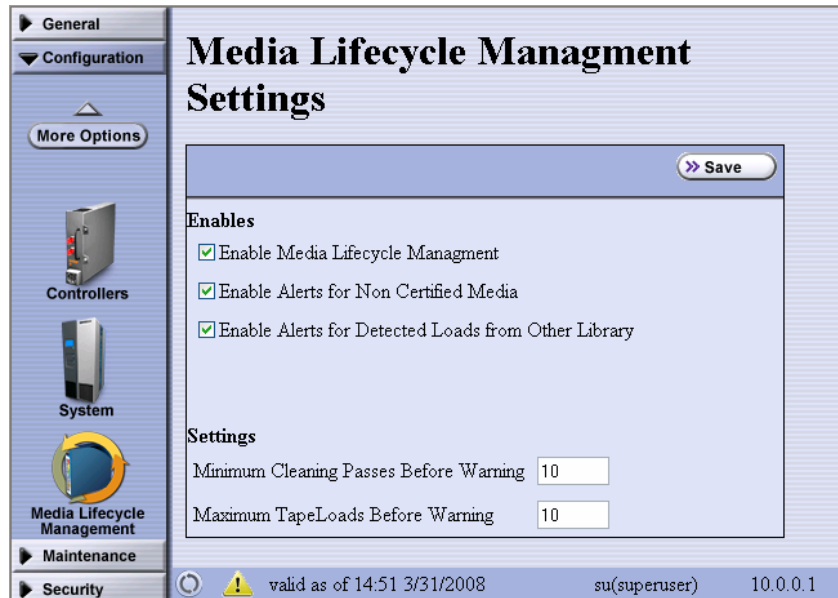

Figure 2
- For higher levels of notification, use the options under Configuration -> Media Lifecycle Management (Fig. 2). Choose a maximum load count for the data tapes and put that value in the “Maximum Tape Loads Before Warning.” This will generate a system message listing the barcodes of the tapes that have exceeded that threshold.
- Under Configuration -> Media Lifecycle Management (Fig. 2), there is an option to enable alerts for media that is loaded in a non-MLM compatible library or drive. If your Spectra Logic library with LTO-4 drives is the only place your media will be loaded (which Spectra recommends), use this alert as a security feature to let you know if a tape was removed and loaded elsewhere.